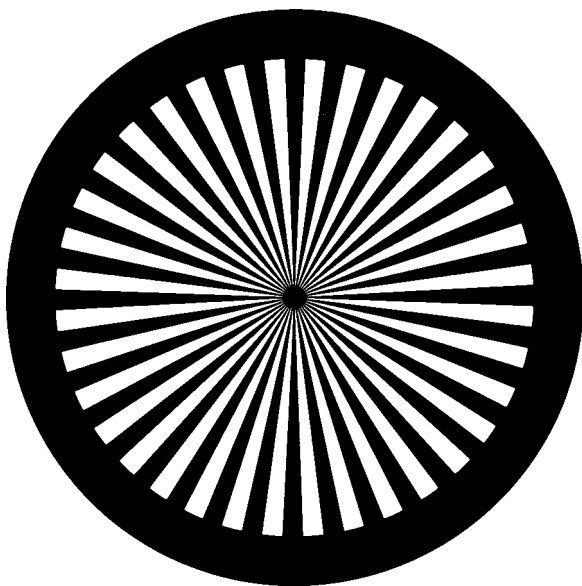

Figure 4.52 Siemens star as seen on most focus test charts. (Courtesy of Century Precision Optics.)
1. Place a focus chart or Siemens star chart 8 to 10 ft from the camera (see Figure 4.52).